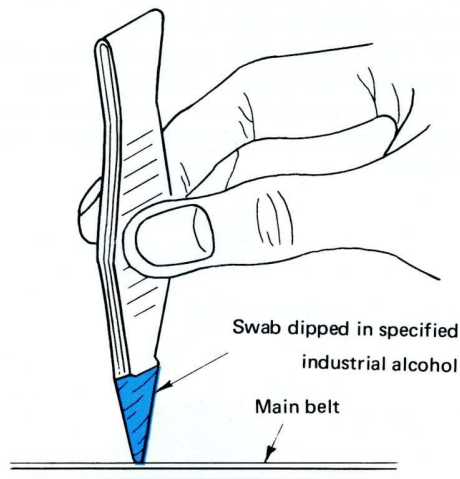

Fig. 43 Cleaning belt
- a. Belt surface should be clean. If the belt has polished spots it may be slipping during operation. Clean it with specified industrial alcohol if it slips or if the belt is dirty. (See Fig. 43.)
- b. When the torque is not at the standard level, clean the main belt and idler with a swab of cotton cloth dipped into alcohol to increase torque. (See Figs. 43, 44)